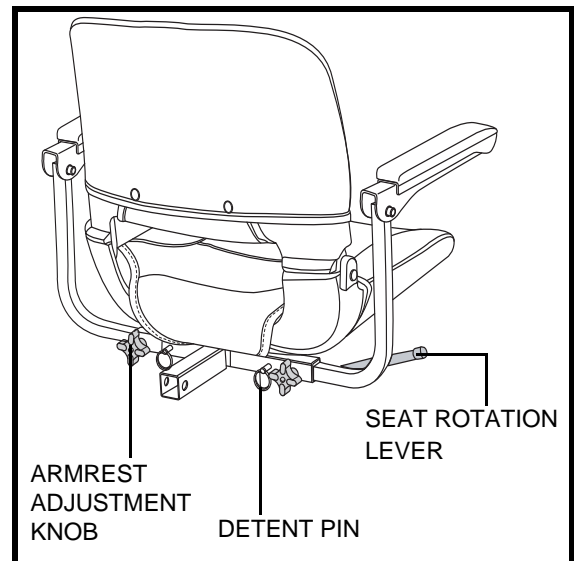

Figure 14. Seat Adjustments
The seat rotation lever, located on the right side of the seat base, secures the seat into several positions. **See figure 14.**
1. Loosen the armrest adjustment knobs. **See figure 14.**